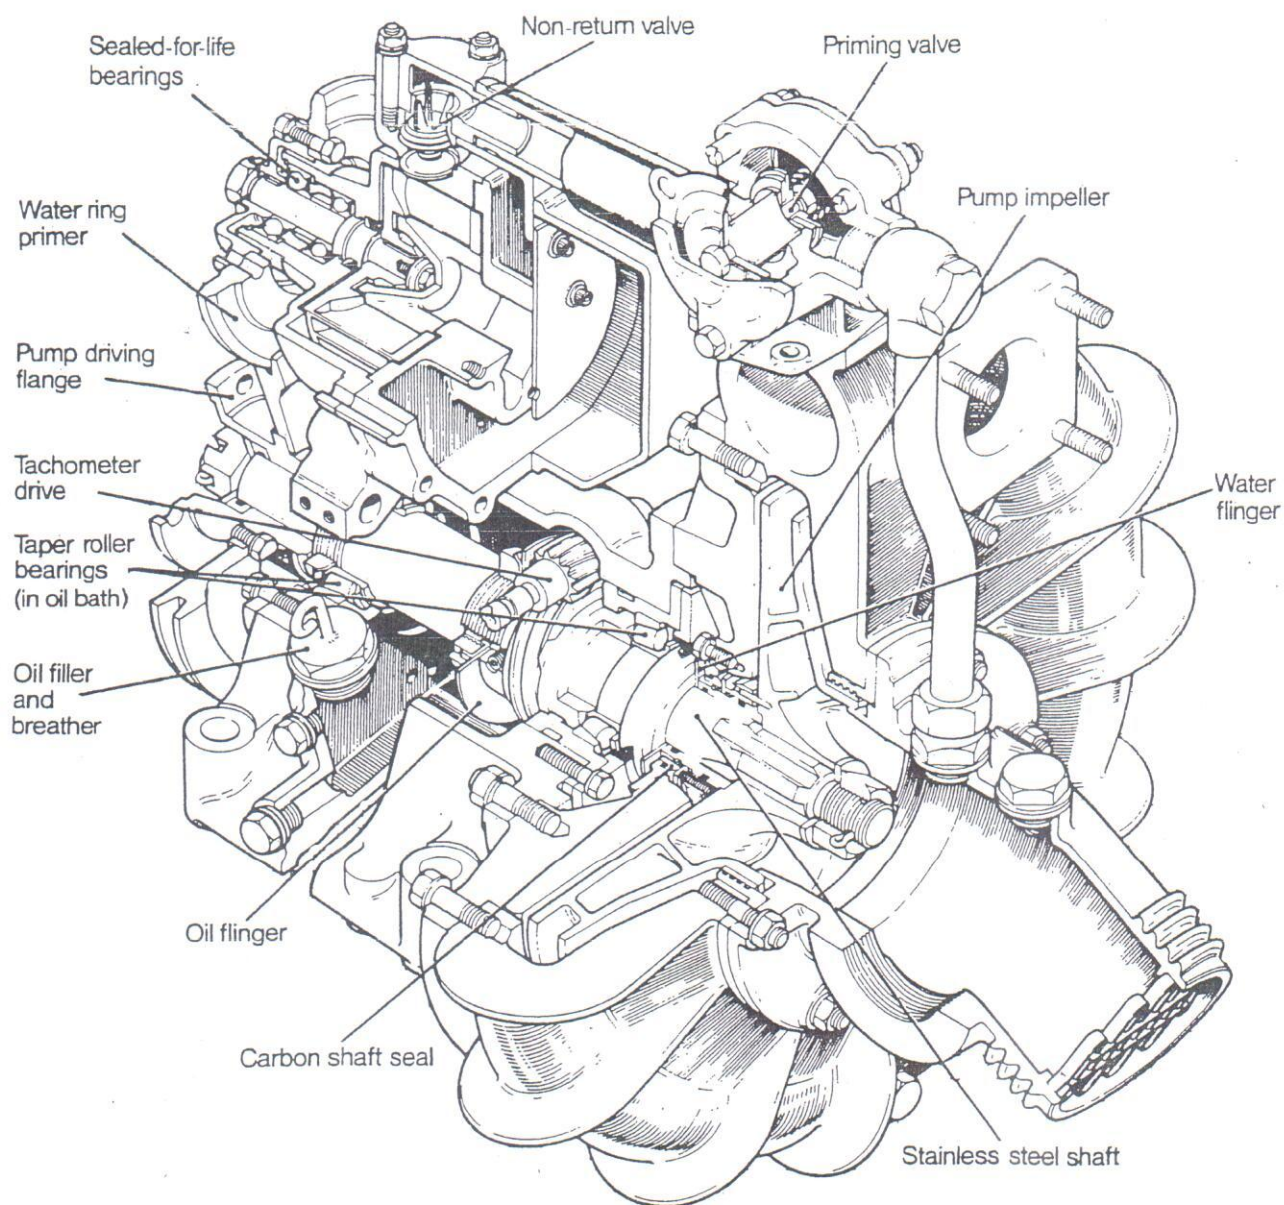

Fig. 1 Water pump type UFPX 656
7.3 Remove the plug (Fig 1) and drain the lubricating oil into a suitable receptacle.